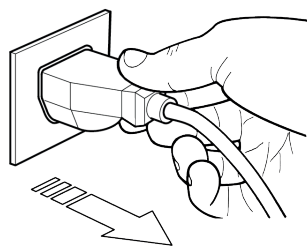
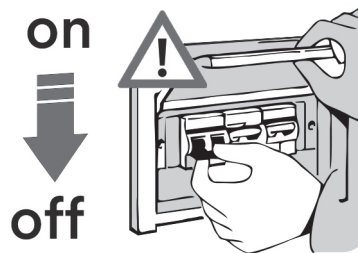

fig. 3
fig. 4
The equipment is not equipped on board with a disconnecter capable of simultaneously disconnecting power to two poles (phase and neutral) of the power supply. In fact, pressing the OFF button on the electronic control unit only stops the operation of the showcase, but does not switch off the power to the electrical components inside the showcase (lights, fans and terminal board). The disconnection can be done by means of a plug socket (fig.3), but the installer is strongly advised to place an omnipolar switch (fig.4) on the electrical connection upstream of the equipment to ensure the total disconnection of the showcase from the power supply.
Pressing the OFF button on the electronic control unit stops the operation of the showcase but does not cause the disconnection of the power supply. It is therefore obligatory, in the event of maintenance work, to completely disconnect the showcase from the mains by pulling the power plug (fig.3) or by acting on the main switch installed upstream of the showcase (fig.4).
**In the event of a fire, always immediately switch off the main power line switch (fig. 4).**